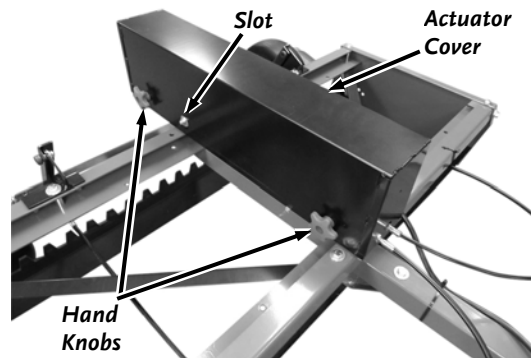

Figure 32
56. Replace the Actuator Cover and tighten the Hand Knobs to secure (**Figure 32**).